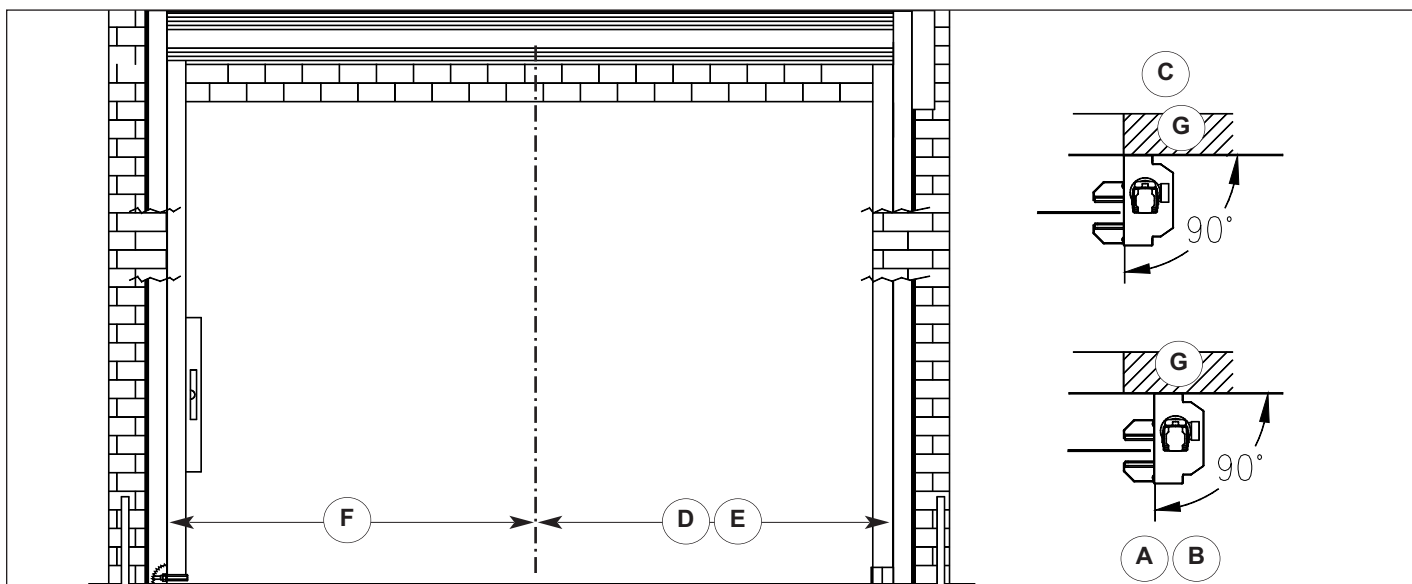

Figure 5.1
From this centerline, measure 1/2 O.D.W. plus 5 3/8" [136] (D) and place a mark on the floor on each side. This will offset the location of the V-Flex™ curtain release system, **Figure 5.1**. Must be equal to O.D.W. plus 10 3/4" [273] +1/4"/-0" [6] and perpendicular to wall (G).
From this centerline, measure 1/2 O.D.W. plus 7 3/8" [187] (E) and place a mark on the floor on each side. This will offset the location of the V-Flex™ curtain release system, **Figure 5.1**. Must be equal to O.D.W. plus 14 3/4" [375] for one way high wind +1/4"/-0" [6] and perpendicular to wall
From this centerline, measure 1/2 O.D.W. (F) and place a mark on the floor on each side, **Figure 5.1**.